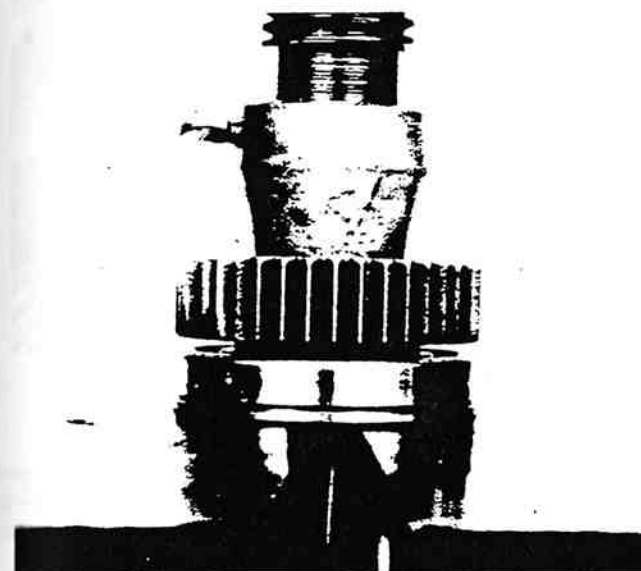

Figure 13-100. Drive Gear Bearing Installation.
4. Press the drive gear bearing on shaft, shield to the front (figure 13-100).